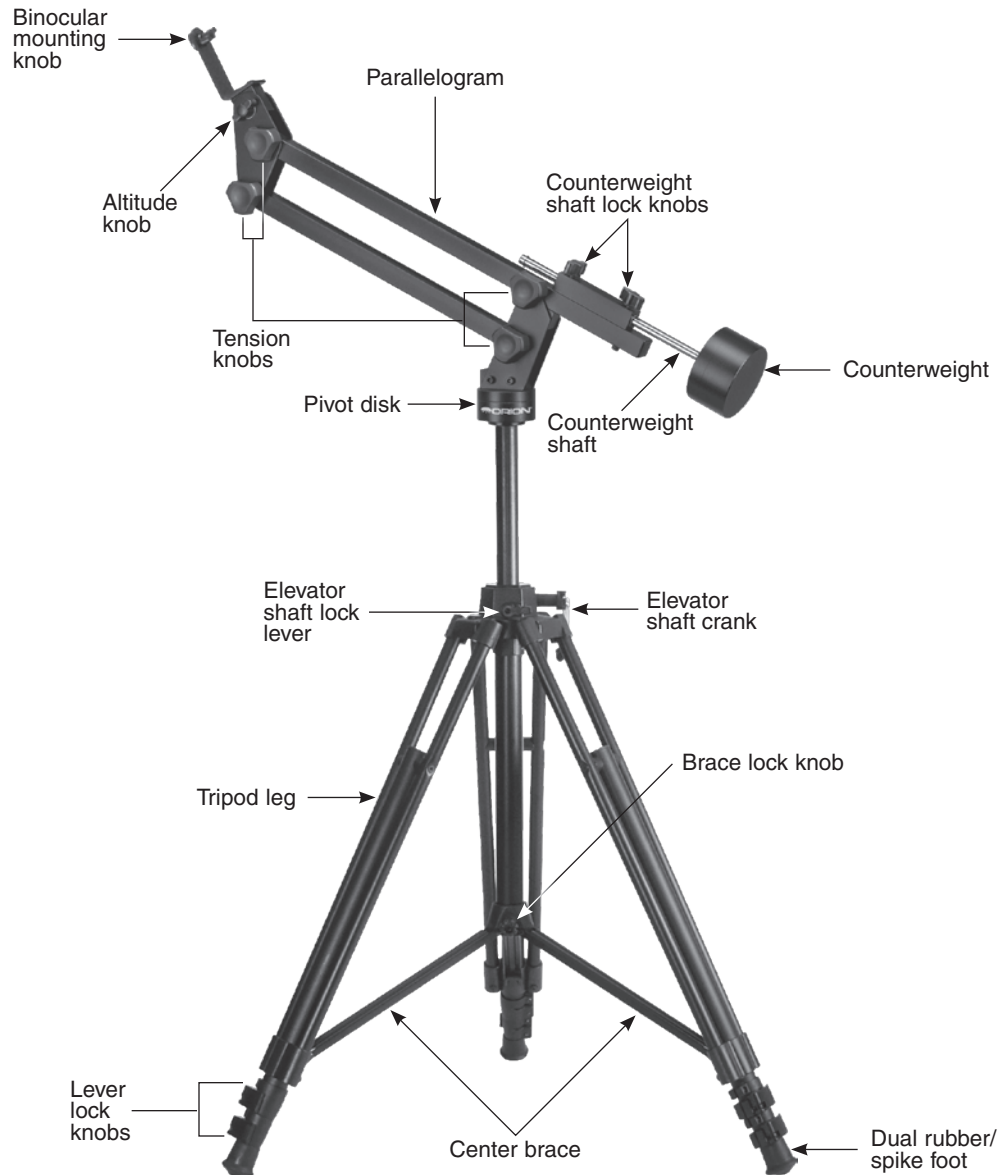

Figure 1. The Paragon-Plus binocular mount
The attachment instructions cover the attachment to either the Paragon-Plus tripod (included with #5379), or any sturdy tripod you might already have. You will need a flat-head screwdriver and a 2mm hex wrench to attach the binocular mount to a tripod. Refer to Figure 1 during assembly.
- 2) Turn the binocular mount upside down. On the bottom of the pivot disk (Figure 1) there is a 3/8" threaded hole containing a brass 1/4"-20 threaded insert. This may need to be removed, depending on the tripod you are using. Compare the size of the threaded post on the tripod with the size of the brass insert. If the brass insert is too small, then it will need to be removed. It should be removed to use it with the Paragon-Plus tripod in the #5379 package. Use the flat-head screwdriver to do this.
- 3) Spread the legs of the tripod as far as they will go and lock them in place with the brace lock knob (Figure 1). Keep the legs at their shortest height, for now. The Paragon-Plus tripod has a very wide stance for enhanced stability. The widest stance is achieved when the tri-brace is as far down as it will go on the elevator shaft housing. The brace lock knob should be tightened to secure the stance. When using the binocular mount, the tripod legs should always be fully extended, otherwise the weight of the binocular mount could cause the tripod to tip over.
Your Paragon-Plus binocular mount is now assembled and should resemble Figure 1.